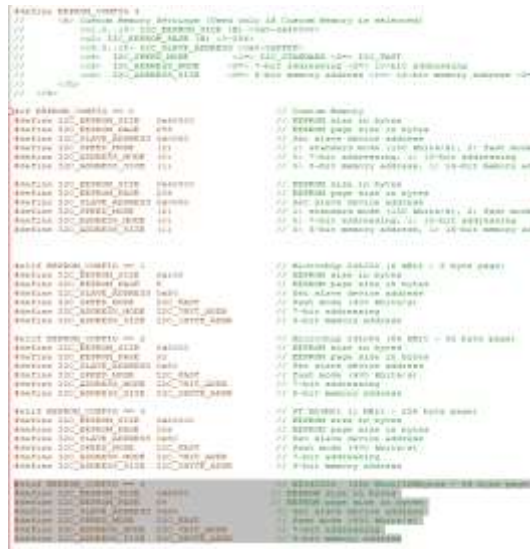

Figure 14: user_periph_setup.h configuration file
- 2) Search for the **periph_setup.h** file. From this file, the port, clock frequency, memory size and memory page size can be changed. Figure 14 shows how to add new I2C EEPROM characteristics to support the **AT24C256**.